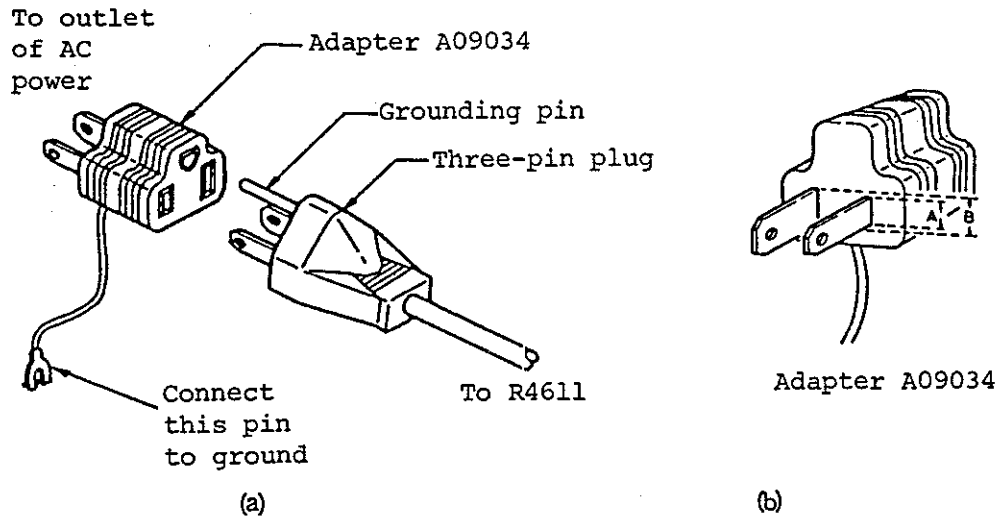

Figure 1-2 Power Cable Plug and Adapter
To connect the plug to the outlet using the adapter, connect either of the grounding cords (shown in Figure 1-2 (a)) of the adapter) or the grounding terminal on the R4611E rear panel to ground via an external grounding cord.
Accessory adapter A09034 conforms to the Law for Electric Products. The width (A) of one electrode of the A09034 is different from (B) of the other one as shown in Figure 1-2 (b). When inserting this adapter into the outlet, check the direction of both the plug and outlet. When A09034 is unsuitable for the outlet to be used, purchase adapter KPR-13.